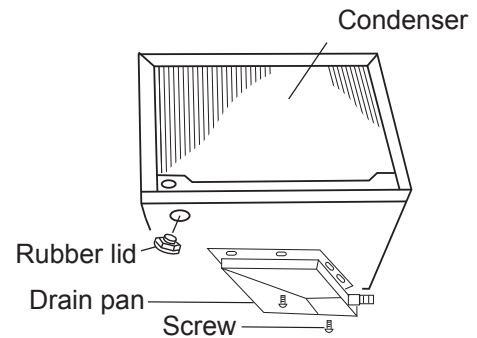
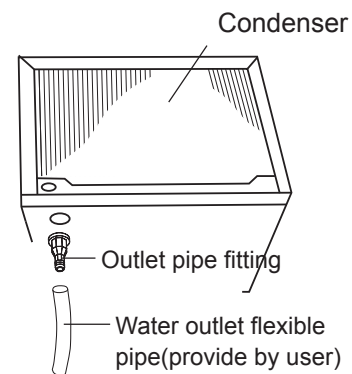

Fig. 5
Fig.6
1. Make the wall hole or window hole (see Fig.5).
4. Cooling-only type air-conditioner: before dispatched from the factory, the drip hole at the bottom plate has been blocked by rubber lid in the accessories. If the surrounding humidity is high, should assemble drainage bend in the drainage hole at the back of bottom plate and connect the drainage tube as illustrated in Fig. 6. If the user doesn't need to retain the condensate in the bottom plate, can remove the rubber lid on the bottom and as illustrated in Fig. 5, assemble the attached drain pan on the bottom of the air-conditioner, and connect drainage tube at the water outlet hole on the drain pan.